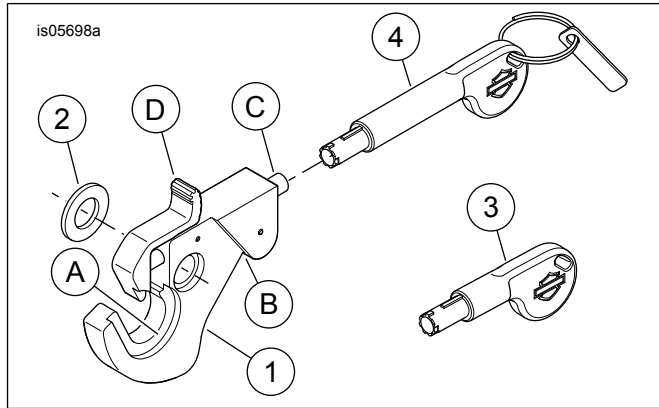

Figure 3. Service Parts: Detachables Lock Kits
See Figure 3 and Table 2.
See Figure 3. Depending on the installed detachable, the position of the relief (A) and undercuts (B) will be used as
1. **Locking the Latch:** See Figure 3. When the detachable is installed, push the spring-operated lock (C).